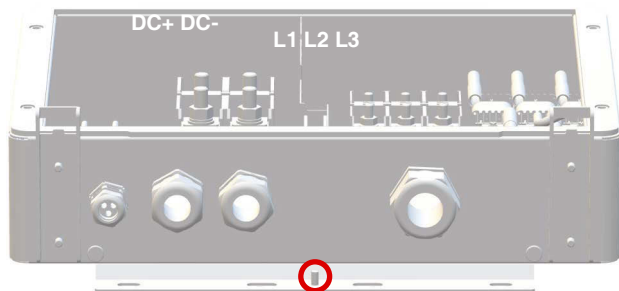

Fig. 10: Equipotential bonding connection
3. Connect protective earth conductor (PE) (see Fig. 3) and equipotential bonding (see Fig. 10).